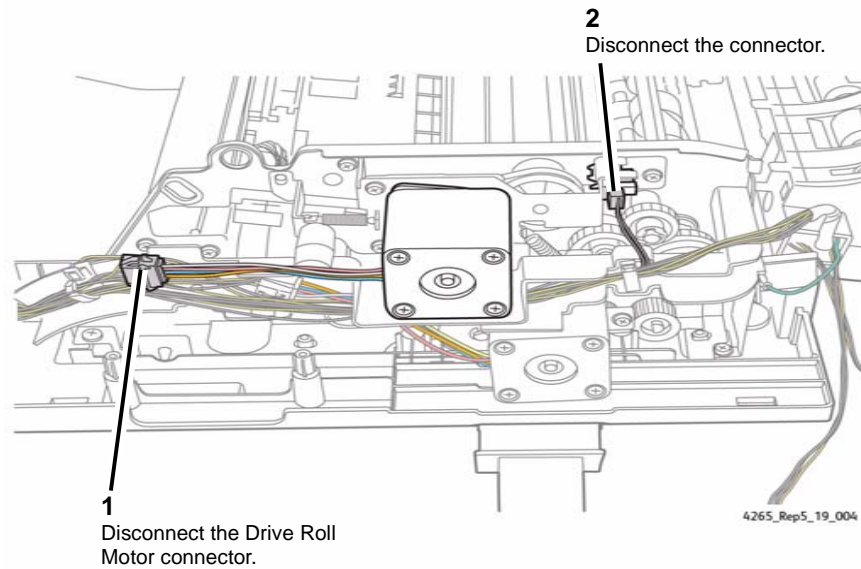

Figure 4 Disconnecting the Connectors
7. Disconnect the two connectors (Figure 4).